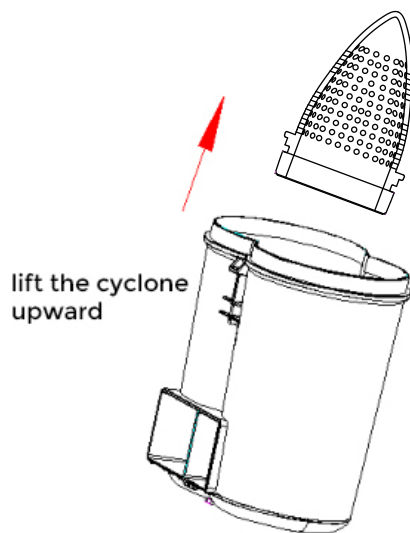

Fig.3
1. Hold the dust cup and lift the cyclone assembly upward (Fig. 3).